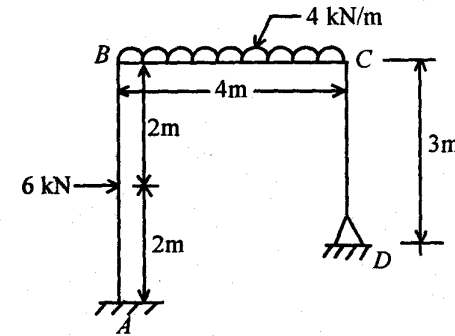

Fig. 3
- (b) Determine the support moments for the portal frame shown in Fig. 3. All the members have the same flexural rigidity. 15